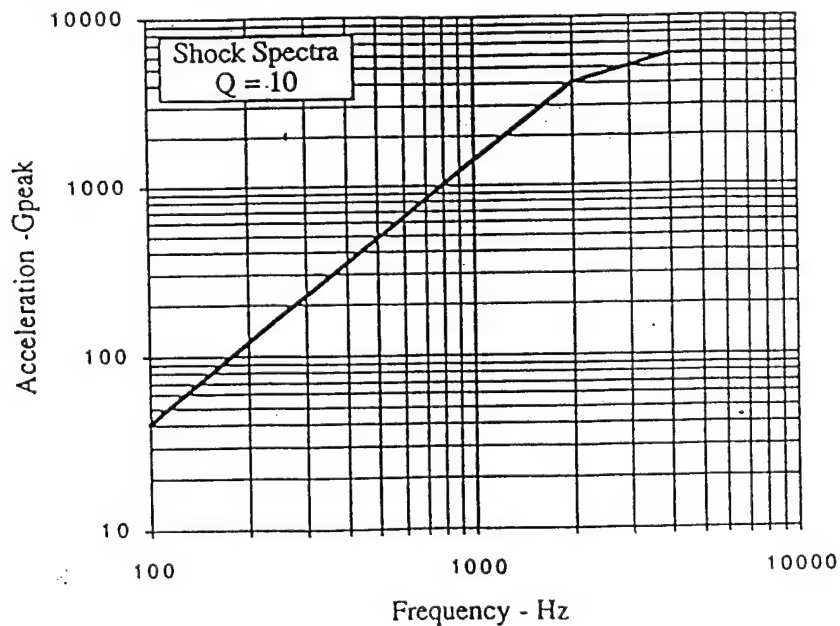

Figure 19 - Maximum Expected Pyro-shock Levels
3.6.3. Shock. The predicted pyro-shock levels at the MPTB interface with the host vehicle are shown in Figure 19.